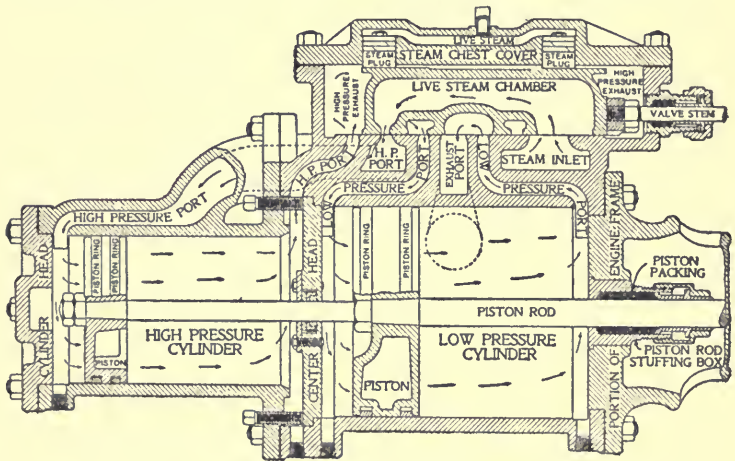

FIG. 24. SECTIONAL VIEW OF "WOOLF" COMPOUNDED CYLINDER.
*The Woolf Compound.* The cut Fig. 24 shows a sectional view of the "Woolf"-tandem-compound cylinder used on "Case" compound engines. Its operation is as follows: The steam from the boiler enters the valve (which is hollow), through the large opening at the crank end, passes through the valve and out at the narrow opening near the head end, which, as the valve moves, alternately comes opposite the two ports leading to the ends of the small or high pressure cylinder. The valve in moving also alternately uncovers these ports, allowing the high-pressure cylinder to exhaust into the steam chest.
center-head between the high and low-pressure cylinders. In the side view, the rings G and B are removed. The center-head is represented by A. The iron-packing rings D and E are each in three parts or segments and are held in their proper places by the spring C. These segments of rings are so placed that they "break joints," as can readily be seen from the side elevation. They are held in position, relative to each other, by the dowel pin, H. These packing rings are held in place by the ring B, and also by the ring G, which is fastened to the head with three cap-screws, F. The head is held in its position between the cylinders by set-screws, as can readily be seen from Fig. 24.